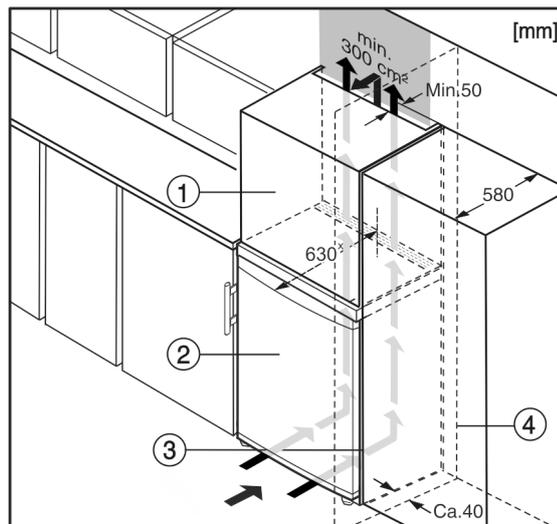

Fig. 8
- (1) Top cupboard
- (2) Appliance
- (3) Kitchen cabinet
- (4) Wall
The appliance can be built into kitchen units. A top cupboard Fig. 8 (2) can be added above the appliance in order to bring the appliance Fig. 8 (1) up to the height of the fitted kitchen units.
If you are integrating the appliance into a kitchen unit (max. depth 580 mm) you can install it right next to the kitchen cabinet Fig. 8 (3). The appliance measures 34 mm * at the side and 50 mm * at the centre in relation to the front of the kitchen cabinet.
If you are installing the appliance with the hinges next to a wall Fig. 8 (4), the distance between the appliance and the wall must be at least 40 mm. This is how far the handle protrudes when the door is open.